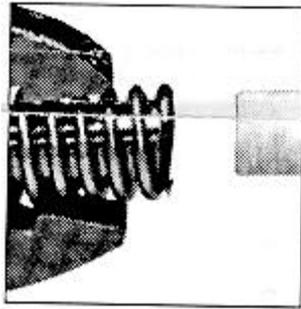

Figure C-2 Stripping off outer conductor
- 4) Strip off the outer conductor at 7 mm away from the connector with the fast cable cutter, and keep the cutting surface smooth, as shown in Figure C-2.